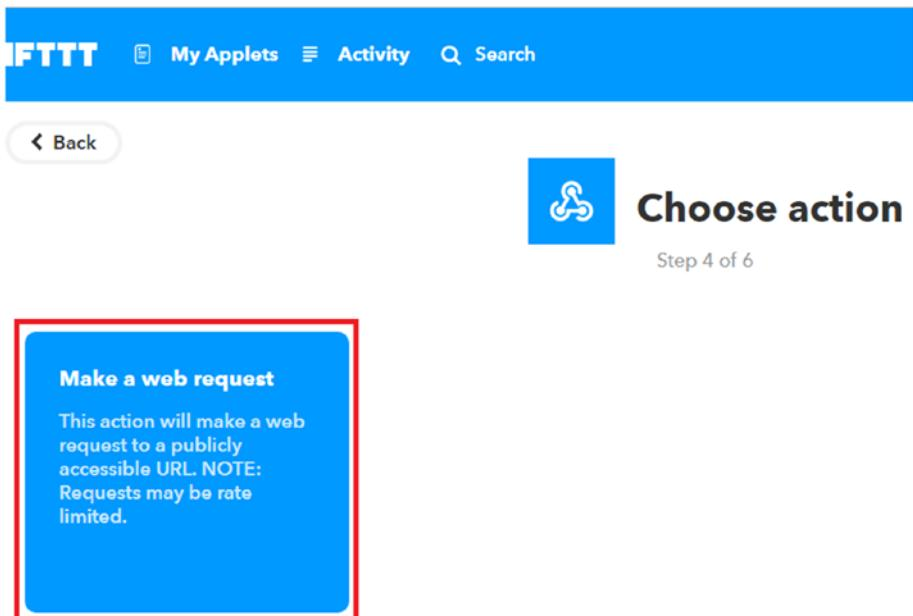

Figure 8-33. Choosing an action
14. On the “Choose action” page, click the “Make a web request” box (Figure 8-33).